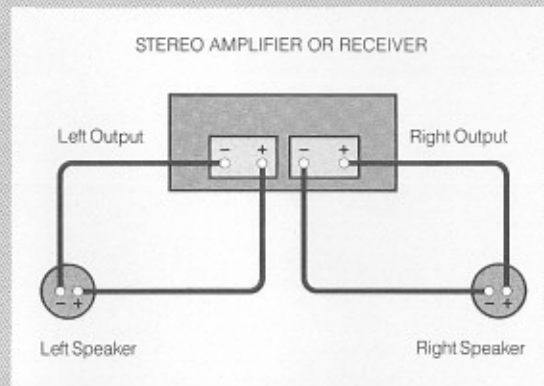
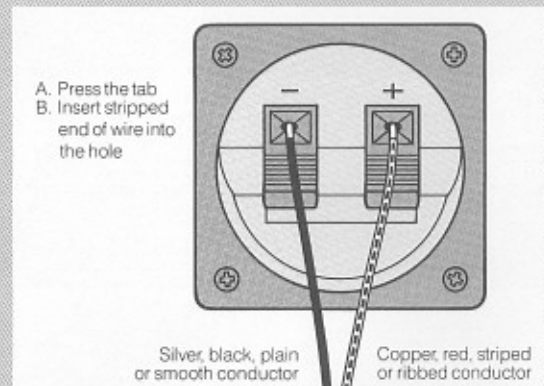

Figure 2. Connecting the speaker
Figure 3. Connecting the speaker to the receiver or amplifier
- C. Connect the negative side of one wire to the terminal marked (-) on the left speaker. **Refer to Figure 2.** Connect the other negative end of the same (negative) wire to the corresponding negative terminal on the left channel of your receiver or amplifier. **Refer to Figure 3.**